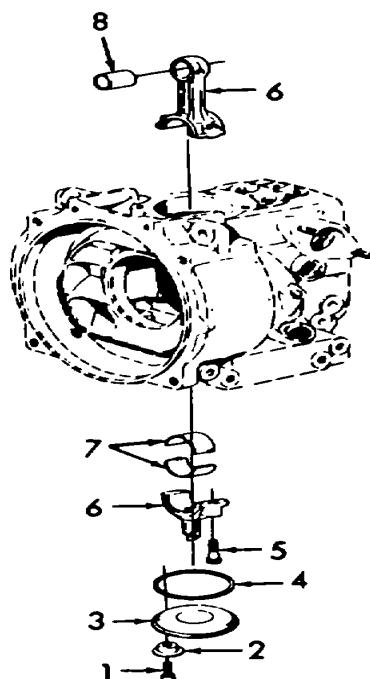

Figure 6-6. Connecting Rod Installation.
e. Installation. (Refer to figure 6-6).
- (1) Using an arbor press, press bushing (8) into connecting rod (6).